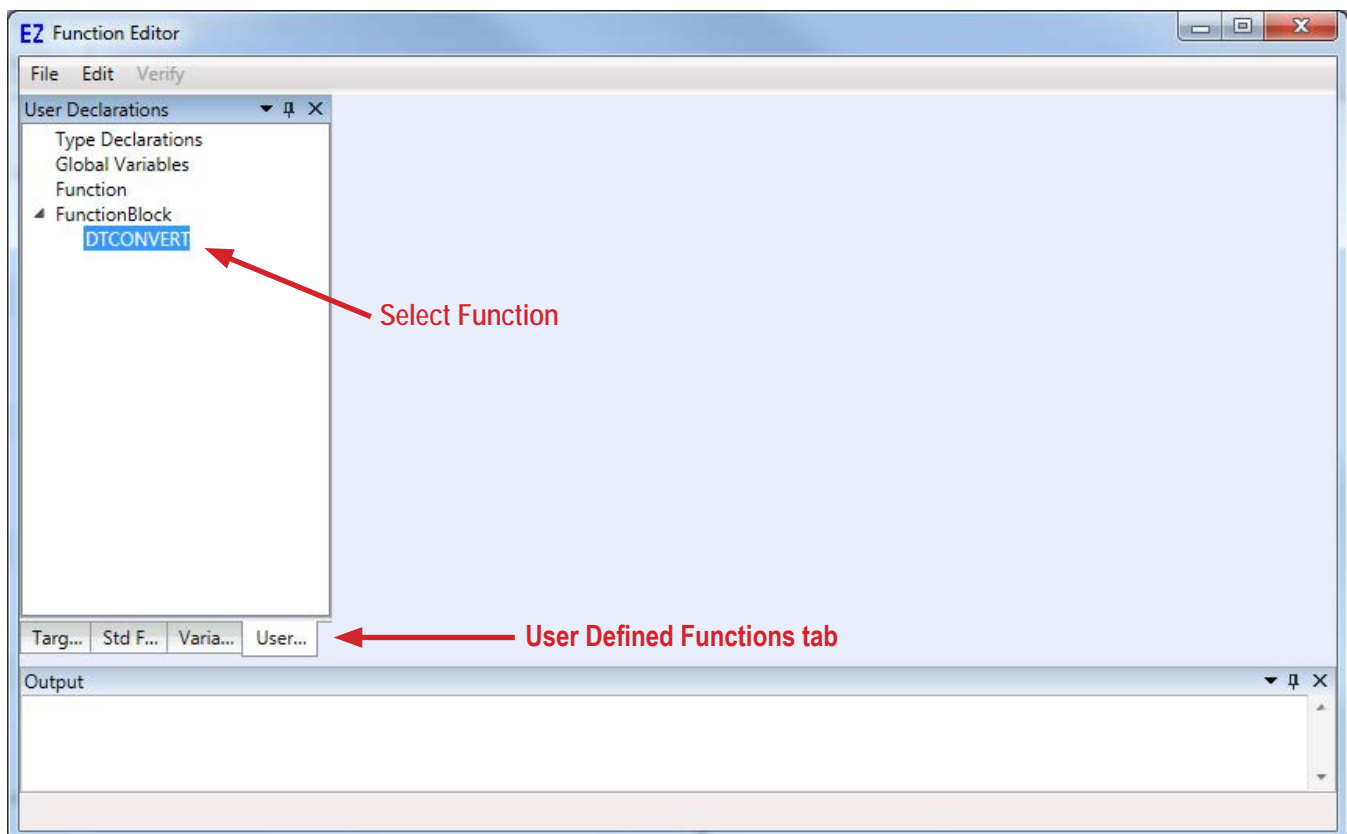

Figure 26-22
3. Click the User Defined Functions tab (see Figure 26-22) to view the list of user defined functions and function blocks. Select the function / function block to copy. You may need to expand the Function or FunctionBlock heading.